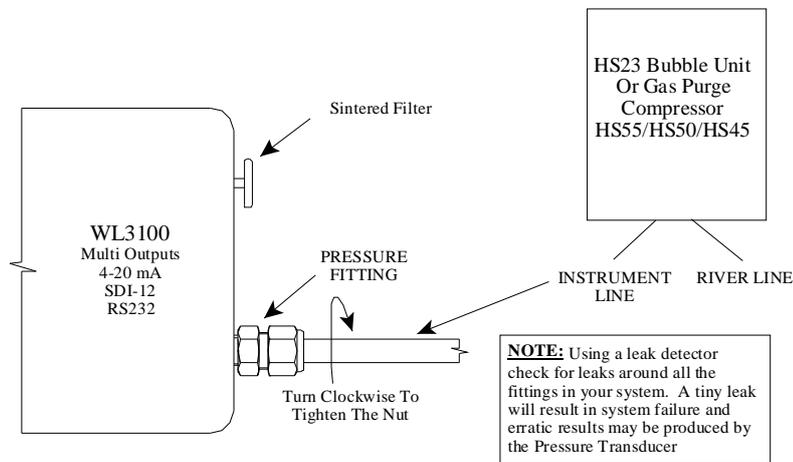

Figure3: Pressure Transducer Installation- Part (b)
2. Tighten the nut as shown in the figure3 below.